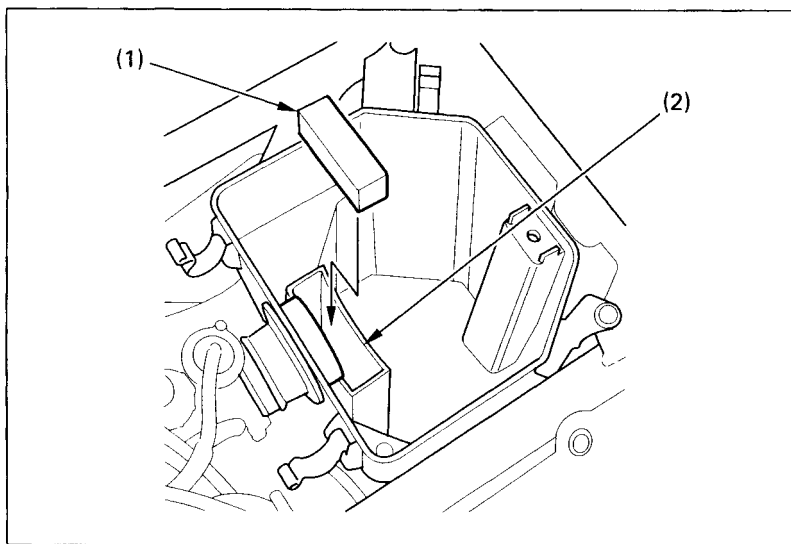

Fig. 4-6
Do not push the dust cover (1) (Fig. 4-6) into the air cleaner housing (2). If the dust cover is dirty, clean it.